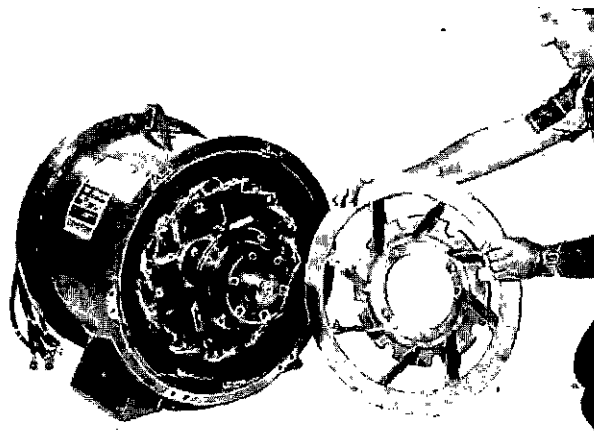

FIGURE 6-18
5. If the generator fan requires service it can be removed at this time. See main rotor inspection later in this section for details. (Figure 6-18.)